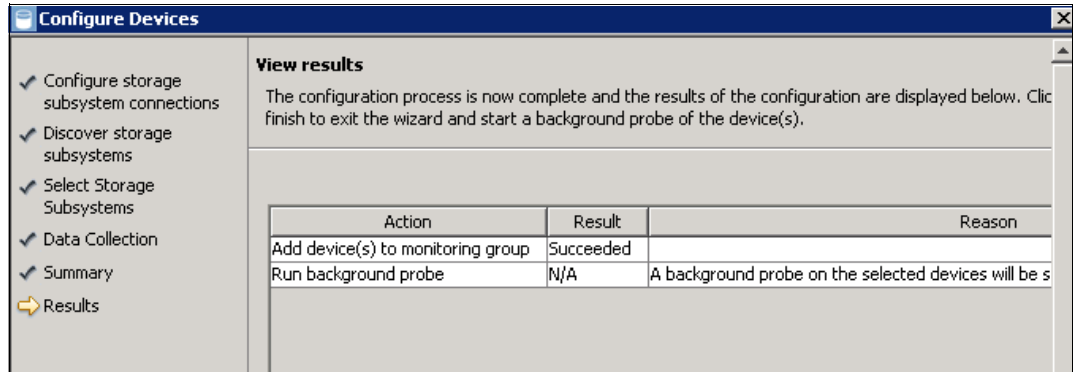
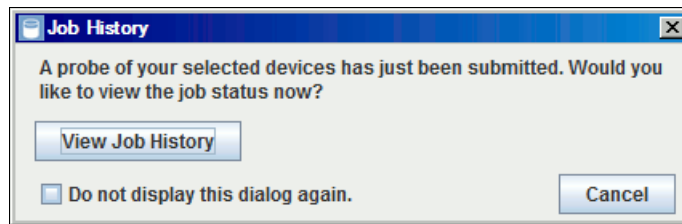

Figure 12-18 View Results
Figure 12-19 Pop-up window will bring you to the jobs list.
12. Click **Next** to commit your configuration choices and to complete the configuration. The View results window (Figure 12-18 on page 299) is displayed. It includes the following information:
1. From the View results window (Figure 12-18), click **Finish** to close the wizard and start a probe of the DS8000 server that you configured. To view the status of the probe, from the Job History window click **View Job History**. Depending on your settings, a pop-up window, as shown in Figure 12-19, might appear allowing you to view the discovery logs.